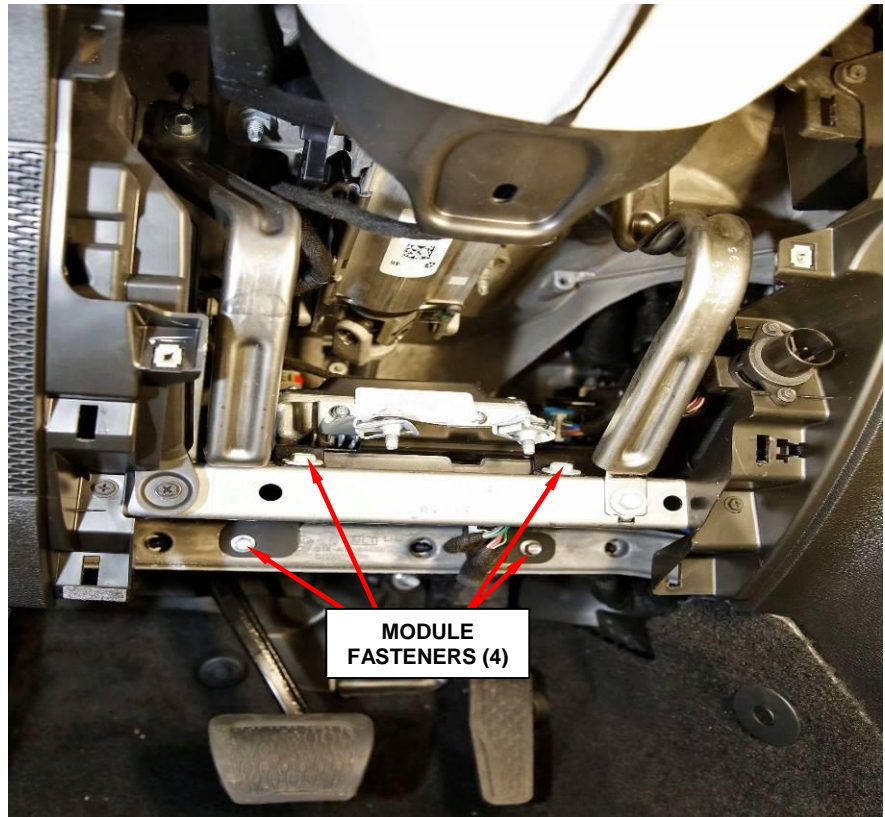

Figure 7 – Module Fasteners
13. Remove the 4 Comfort Seat and Wheel Module (CSWM) and Power Inverter Module (PIM) fasteners and move aside (Figure 7).
19. Reinstall the 4 Comfort Seat and Wheel Module (CSWM) and Power Inverter Module (PIM) fasteners and tighten securely (Figure 7).